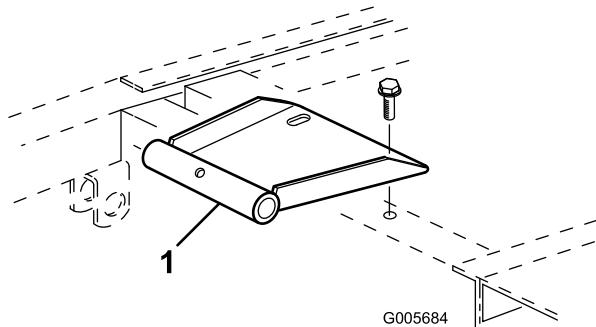

Figure 8
2. Mount seat pivot bracket to frame with 2 flange screws supplied in kit (Figure 8).
4. Mount seat pivot bracket to frame with (2) flange screws supplied in kit (Figure 8).